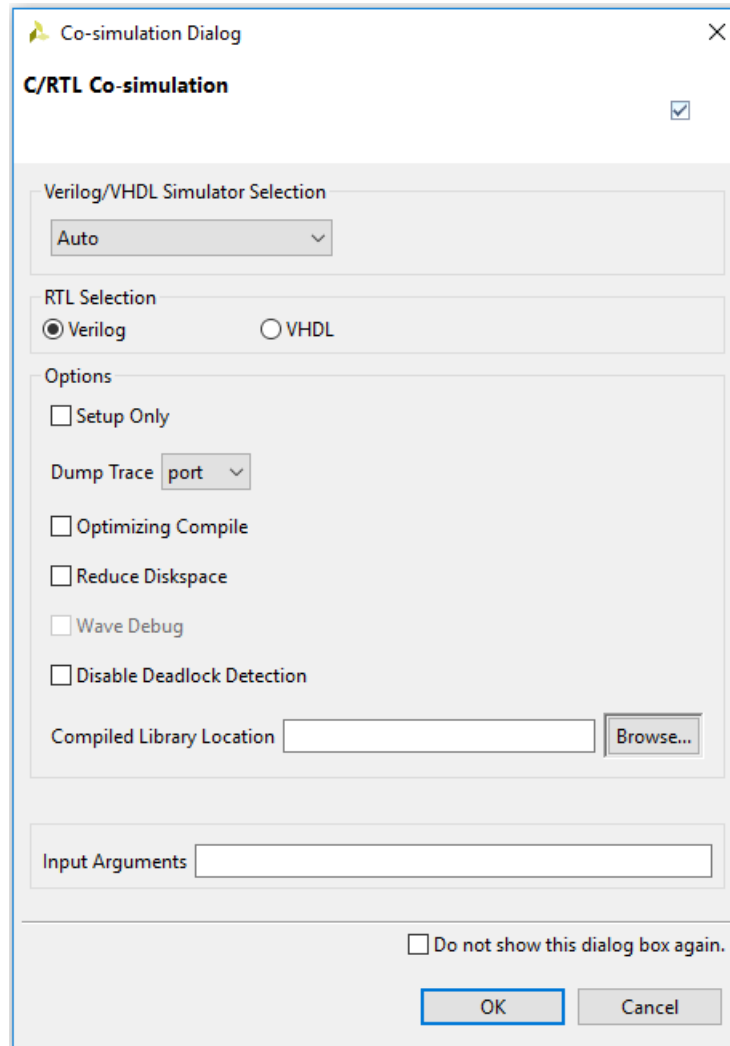

Figure 8-11: CoSimulation Dialog Box for Lab 2
- b. Activate the **Dump Trace** drop-down menu and select the **all** option, to have the options shown in Figure 8-11.